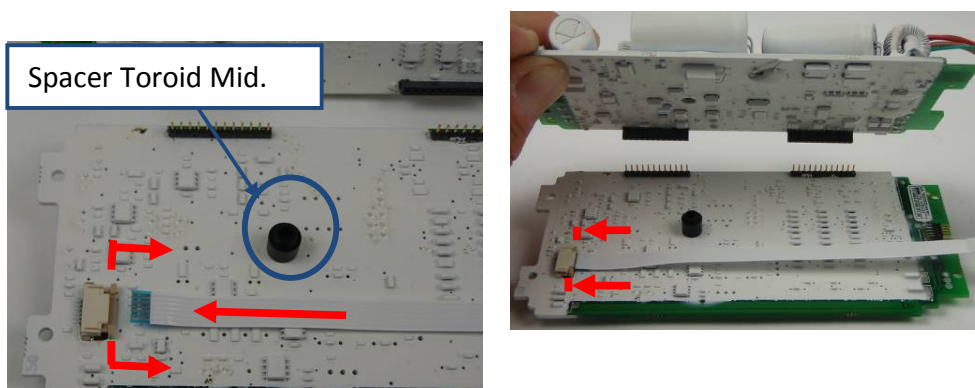

Figure 37: Connecting 6 Way Ribbon Cable
- To connect the 6 way ribbon cable, separate the two halves of the PCB and open the connector bail. Insert 6 way ribbon cable and close the connector locking bail. Figure 37.